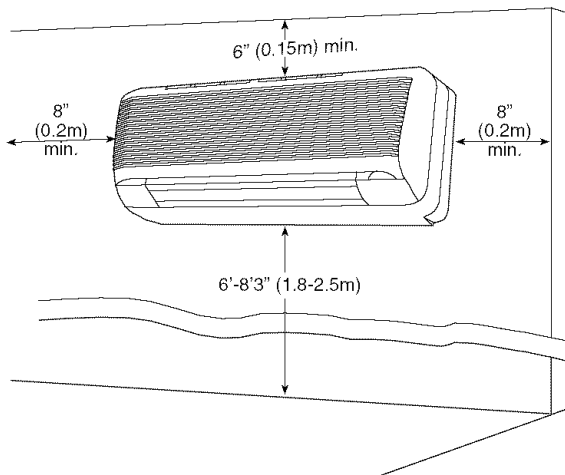

Fig. 2 — 40BNB,BNE Indoor Unit Clearances
2. Position the mounting bracket on the wall and level it using a spirit level (see Fig. 2 for minimum required clearance distances).